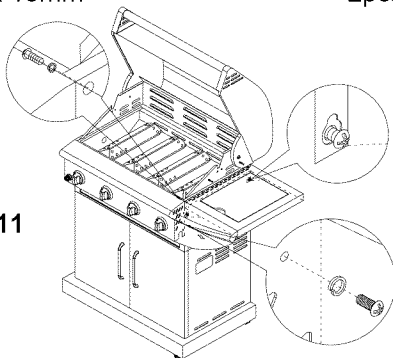

Figure 11
4. Using (2) 1/4 x 10mm screws and (2) 1/4 lock washers, attach side burner shelf to grill head from inside the firebox. Do not tighten screws.
5. Insert one 5/32 x 8 mm screws to attach the side shelf to the control panel (Fig 11).